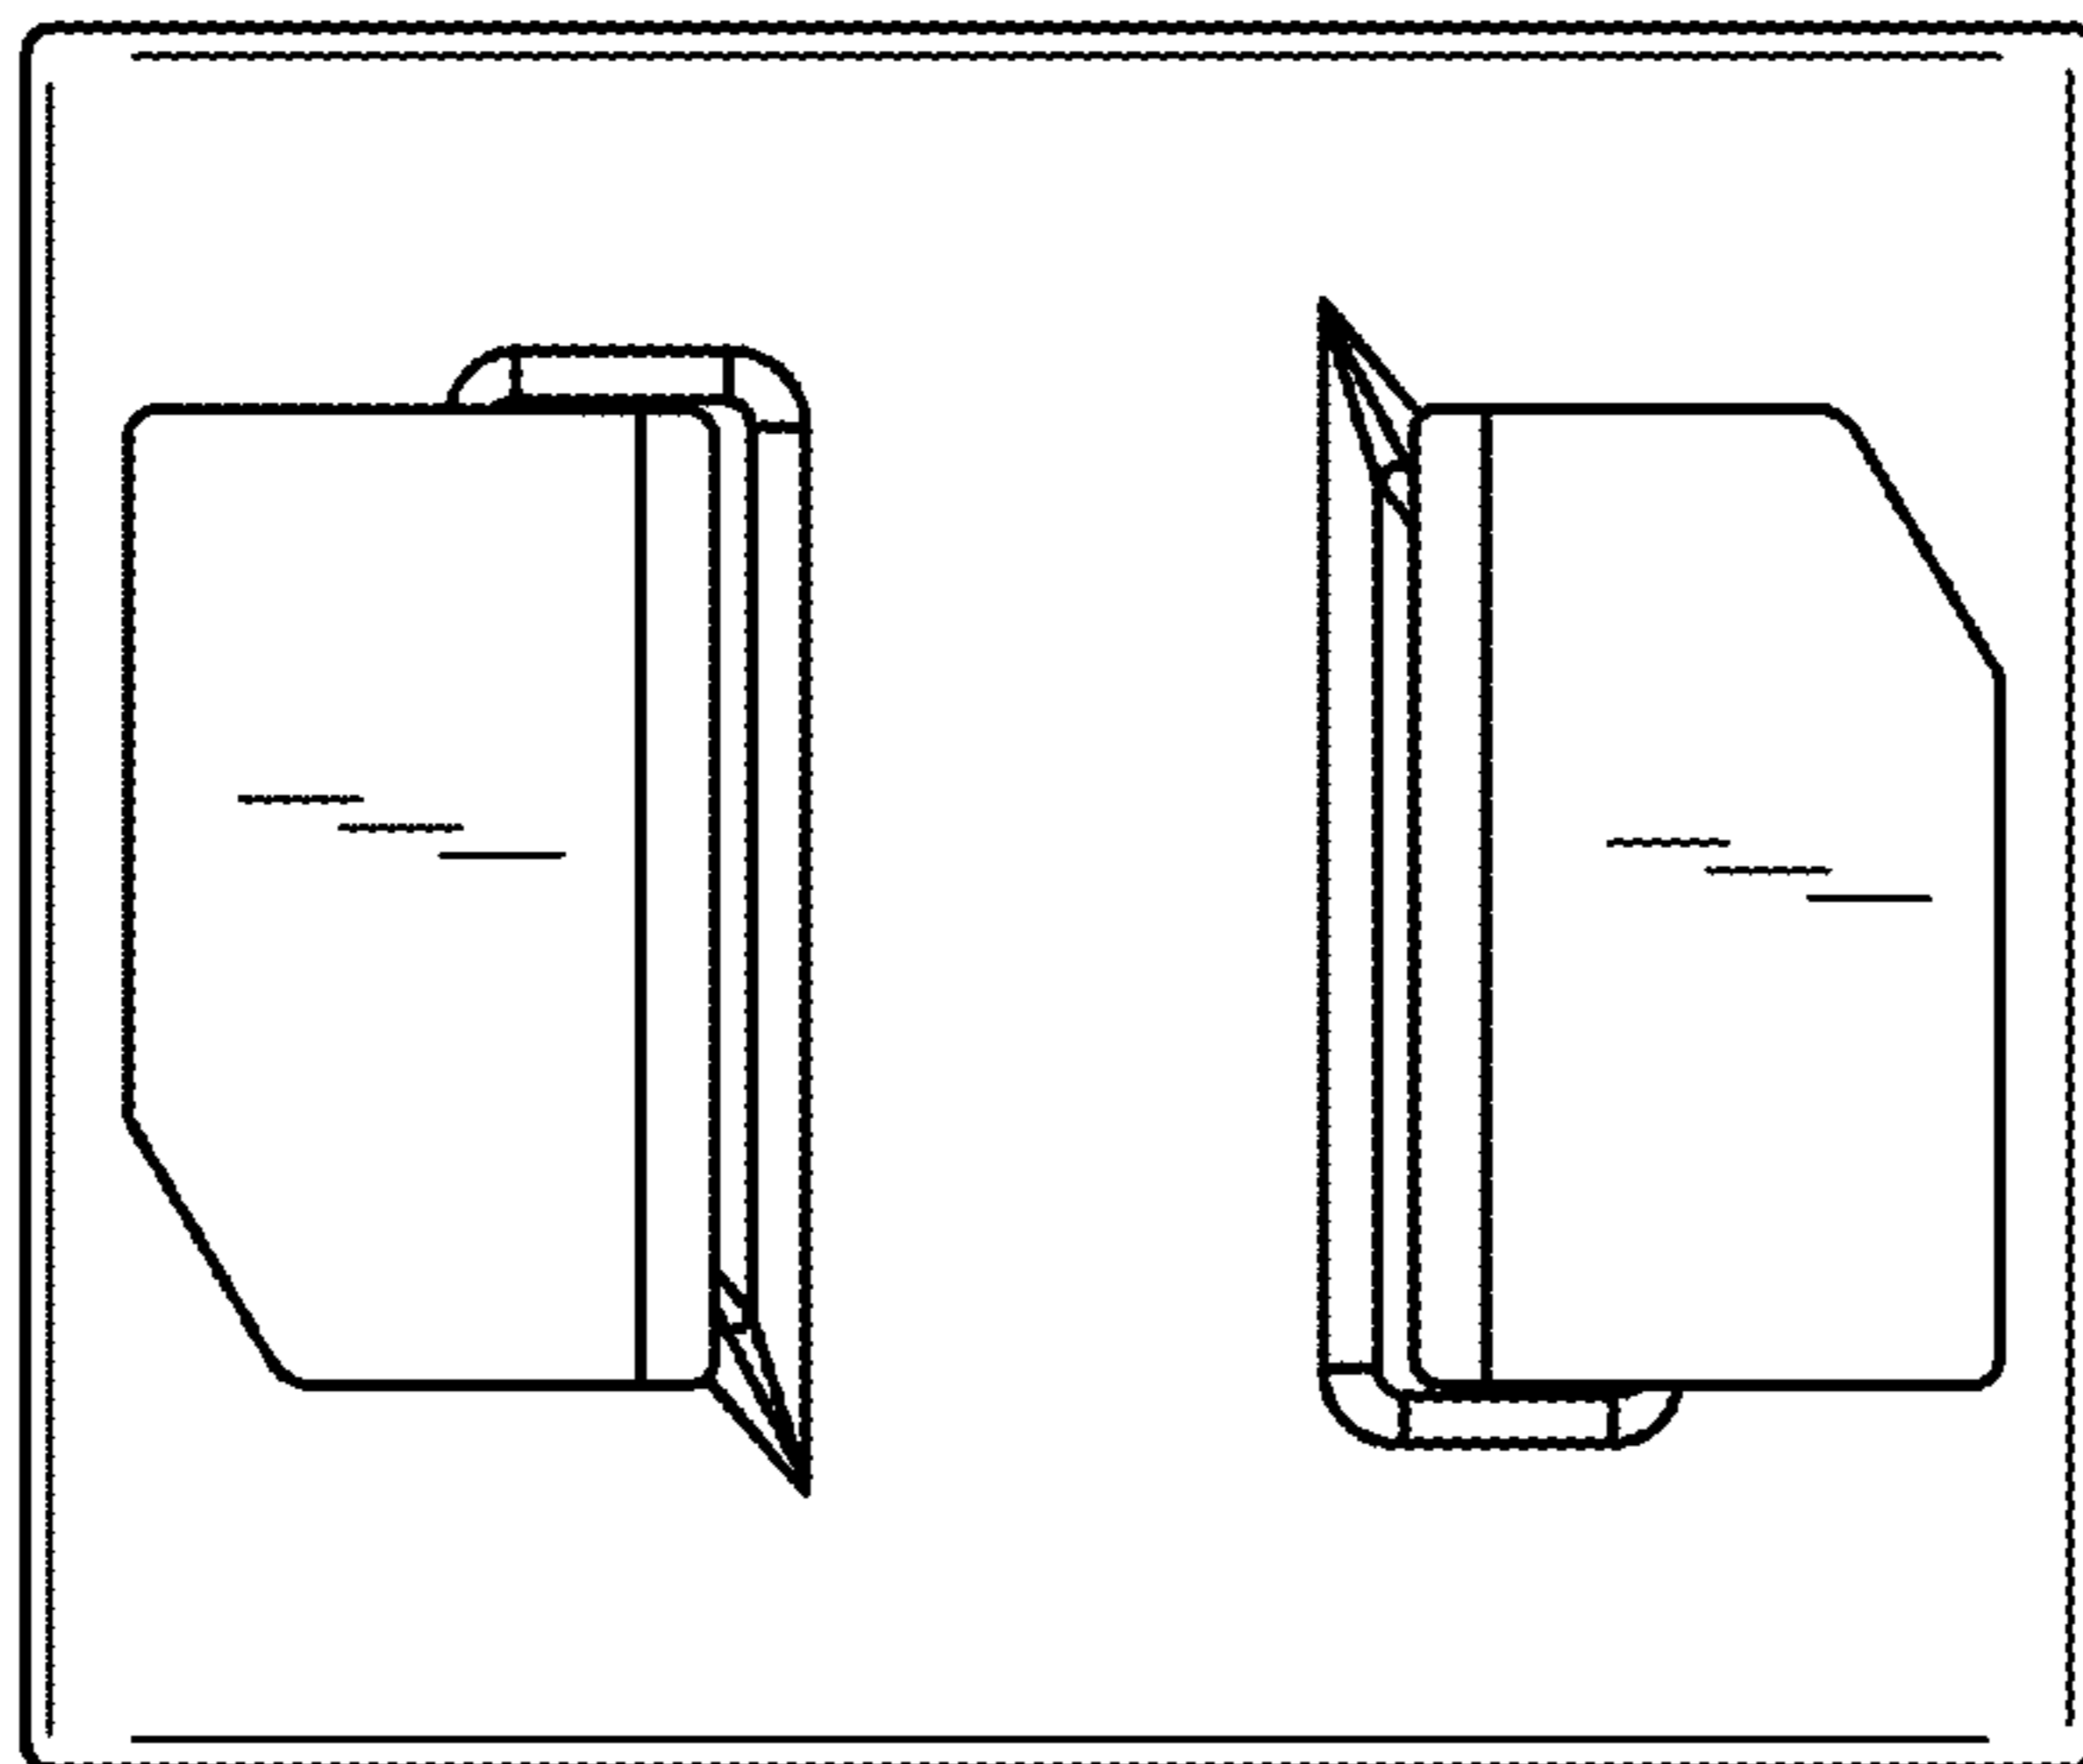

FIG. 6
- FIG. 6 is a bottom view of the pipe clamp; and,